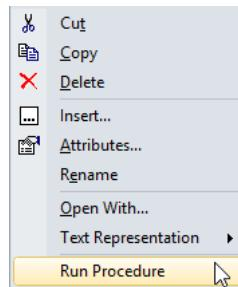

Figure 9.21: The right-mouse menu of the procedure `RollHorizonOnce`
- ▶ in the right-mouse menu select the **Run Procedure** command (see Figure 9.21).